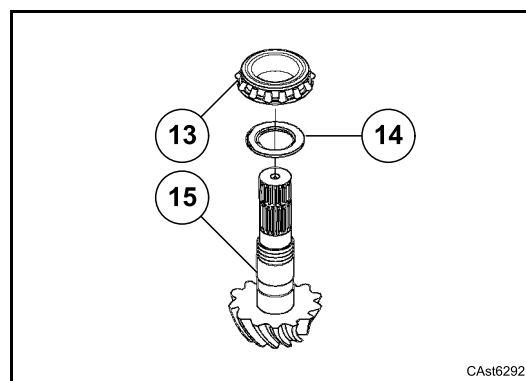

Figure 7
9. Remove false differential box (s3, s4). Unscrew ring nut (s2) and remove false pinion (s1) and bearing cones (11) and (13).
10. Once you have chosen and inserted suitable shim (14) with chamfer against the gear, force bearing cone (13) into the pinion shaft (15) using special tool CA716171.
- Refer to: figure 7.
12. Assemble inner cup of the bearing (11) into the box (12).
13. Assemble following group (g): gear (10), ring nut (9), thrust washer (8), roller bearings (6) and (7), gear (5),